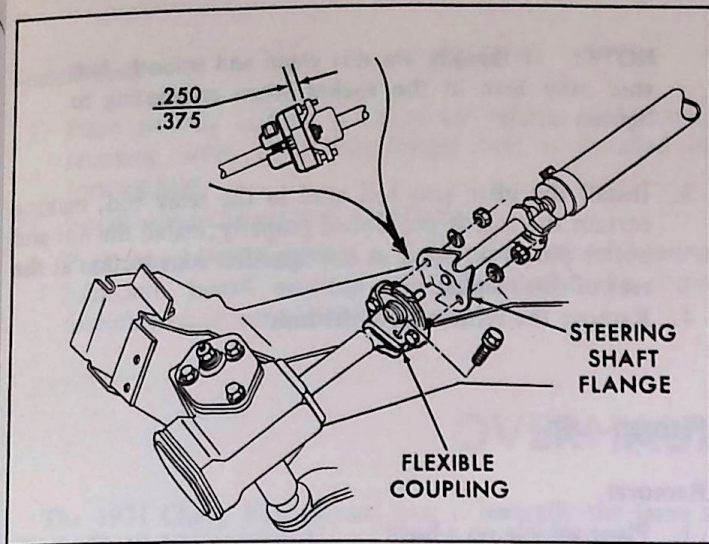

Fig. 13—Steering Shaft to Flexible Coupling
7. Remove the plastic spacers from the alignment pins using a wire hook (fig. 9). Check the rag joint to steering shaft flange clearance (fig. 13); if not within specifications, the dash bracket screws must be loosened and the bracket raised or lowered as required. Retorque the bracket screws.